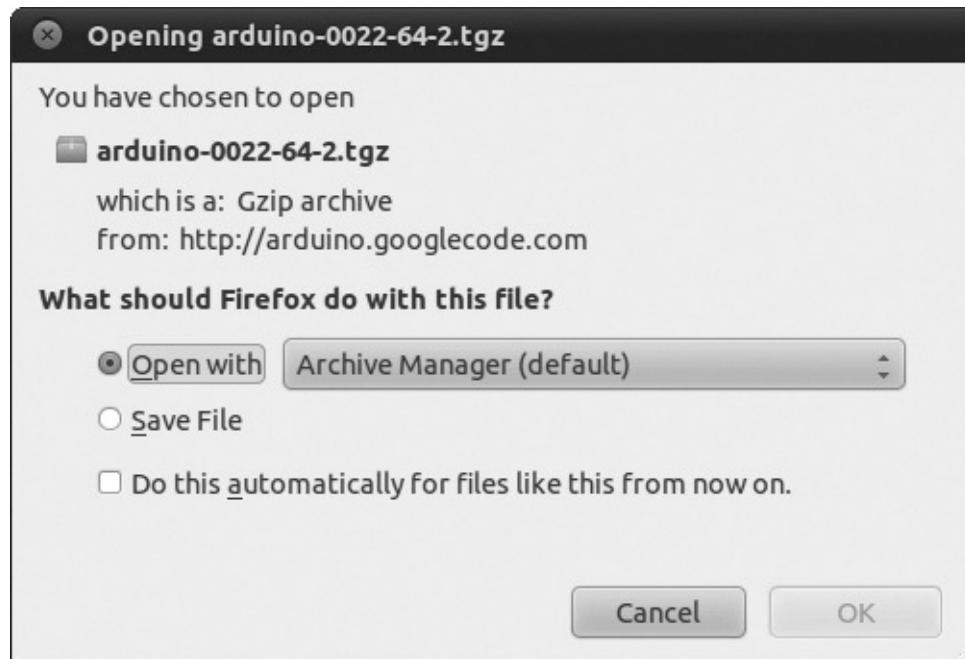

Figure 1-24. Downloading the file
2. Click the Linux **32-bit** or **64-bit** link, depending on your system. When the dialog in **Figure 1-24** appears, select **Open with Archive Manager** and click **OK**.